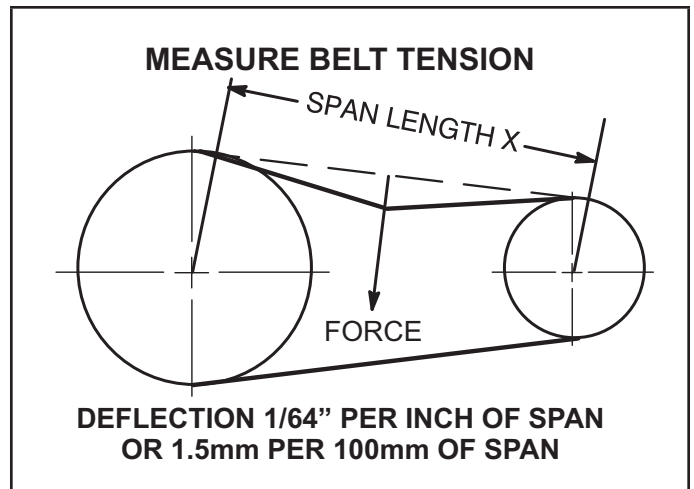

FIGURE 13
- 1 - Measure span length X. See FIGURE 13.
- 2 - Apply perpendicular force to center of span (X) with enough pressure to deflect belt $\frac{1}{64}$ " for every inch of span length or 1.5mm per 100mm of span length.